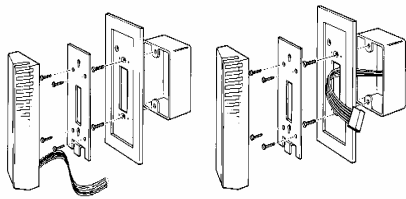

Figure 3.
- When required, use either the adapter plate or base plate as a template to establish drill hole locations. If using the #6-32 self-tapping sheet metal screws provided, use a 3/32" diameter drill. If desired, suitable molly fasteners, etc., (not provided) can be used. Use the center rectangular hole in the plate as a guide to remove sufficient material for wire and connector clearance. See FIG 3.